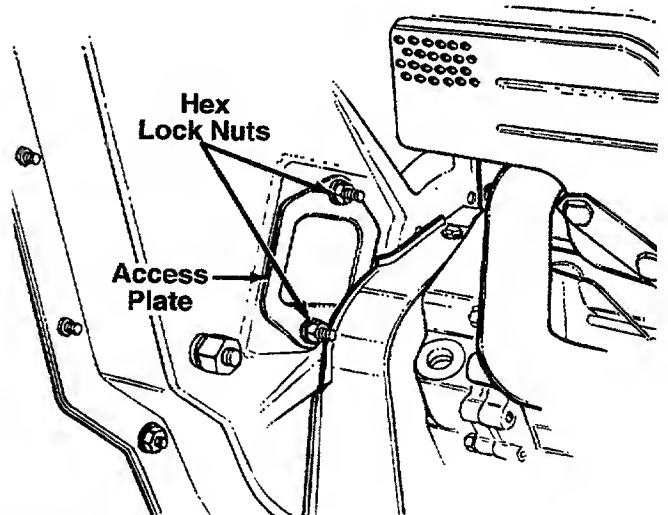

FIGURE 21.
- Remove the access plate by removing two hex lock nuts. See figure 21.